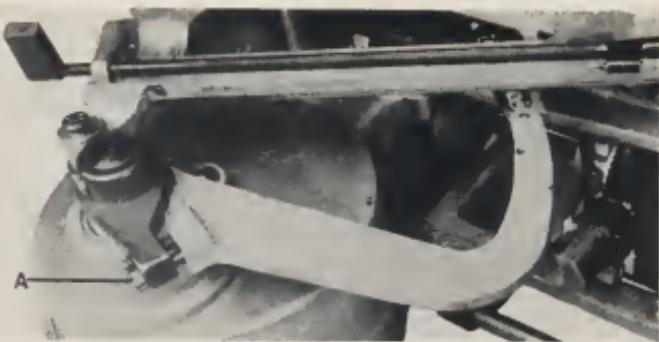

Fig. 17—Saw feed arm adjustment.
The slug feed arm should be adjusted so that when the pusher reaches the bottom of its stroke, the slug is held firmly against the slug stop. With pusher in this position press upward on pusher. The pusher should project about 2 points past the end of the slug guide. To adjust, loosen locking screw (A) Fig. 17, and adjust set screw. Tighten locking screw and check.